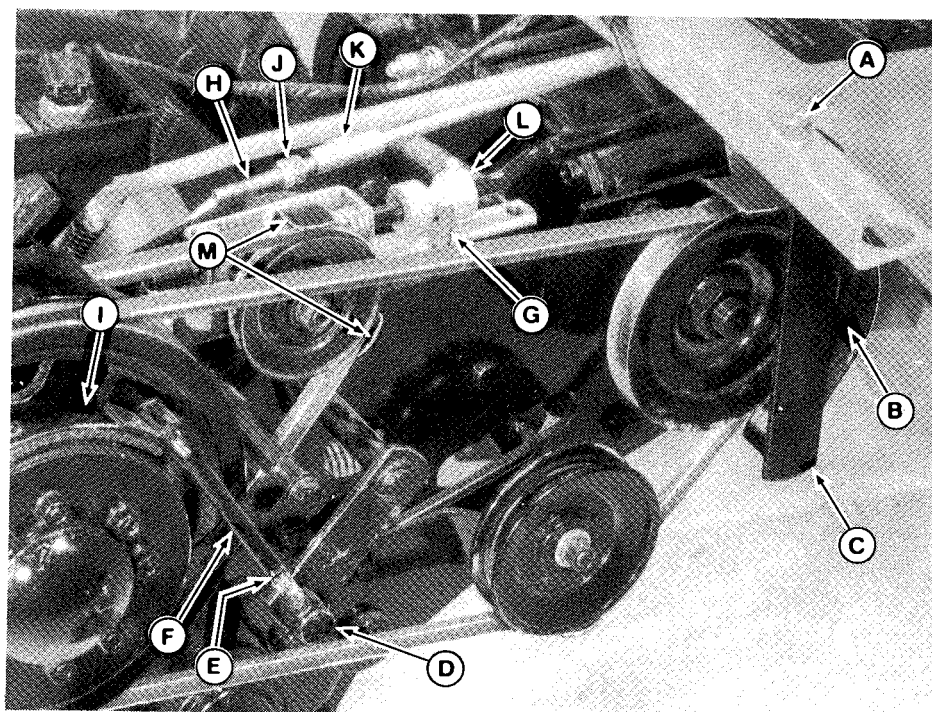

Figure 25. Semi-Automatic Tractor Adjustments
2. **To adjust tractor clutch**, adjust jam nuts (J, figure 25) on the clutch rod so there is 1/4 inch (6 mm) clearance between jam nut and rod guide (K) with clutch-brake pedal in up position.
- e. Place vehicle motion lever in forward drive position. Make sure the clearance between the forward drive belt and each leg of the belt stop (M, figure 25) is 1/16 to 1/8 inch (1.5 to 3 mm). If not, loosen the nut on other side of pulley just enough so that the belt stop can be rotated. When adjustment is correct, retighten the nut.
- f. Place vehicle motion lever in reverse drive position. The brake band (I, figure 25) should grip the planetary hub tightly. If not, place the vehicle motion in neutral position. Remove the spring clip (E) from the pivot pin (D) and pull the pivot pin out of its hole. Rotate the pivot pin on the rod so that almost all slack is taken out of the brake band when the pivot pin is in its hole and vehicle motion in neutral. Replace pivot pin in hole, and spring clip in pivot pin.